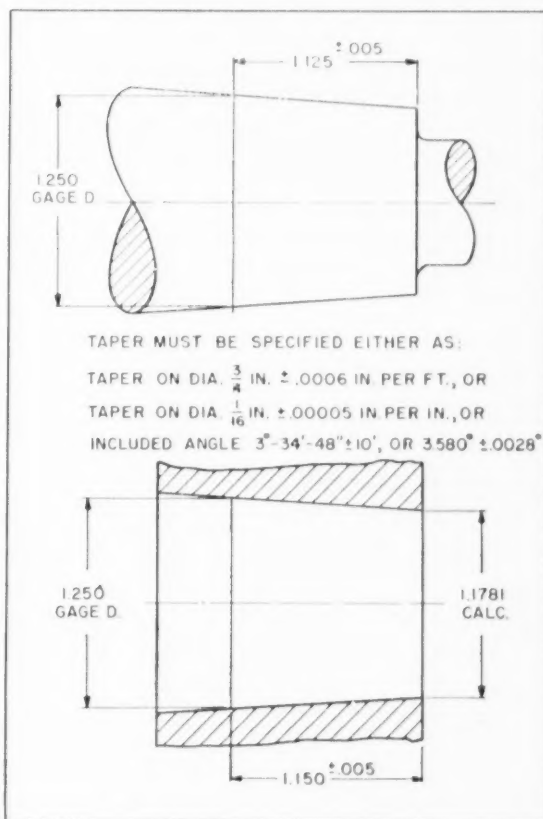

Fig. 14. Tapers are generally dimensioned by showing a gage diameter, the position of the gage diameter, and the amount of taper per inch or foot.
**Tapers**—A taper is a composite surface that includes both conditions of size and conditions of form. Tapers are generally dimensioned by a fixed diameter (gage diameter), the position of this diameter, and the taper per inch or foot, each with tolerances, as shown in Fig. 14. The gage diameter is a constructional dimension and carries no tolerance.